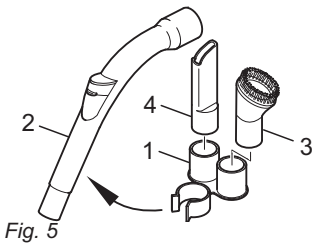

Fig. 5
5. Push the accessories mount (Fig. 5/1) onto the handle (Fig. 5/2). Then push the furniture brush (Fig. 5/3) and crevice nozzle (Fig. 5/4) on to the holders for these.
■ The crevice nozzle and the furniture brush are included as **accessories** in the scope of delivery. They can be secured to the accessories mount (Fig. 5) when not in use.